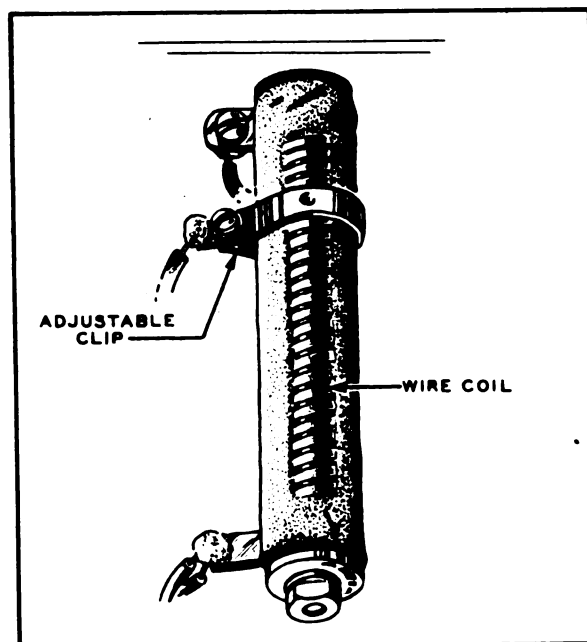

Figure 5-9. Battery Charging Resistor
(17) BATTERY CHARGING RESISTOR.—The battery charging resistor has a value of 1.5 ohms and is of the slide wire type. If the charging rate does not rise higher than 2 amperes when the battery is known to be in a low state of charge and the charge rate switch is in HI position, the resistor should be adjusted to increase the rate of current flow. If this fails a replacement of the resistor should be made. See figure 5-9.
(18) MAGNETO.